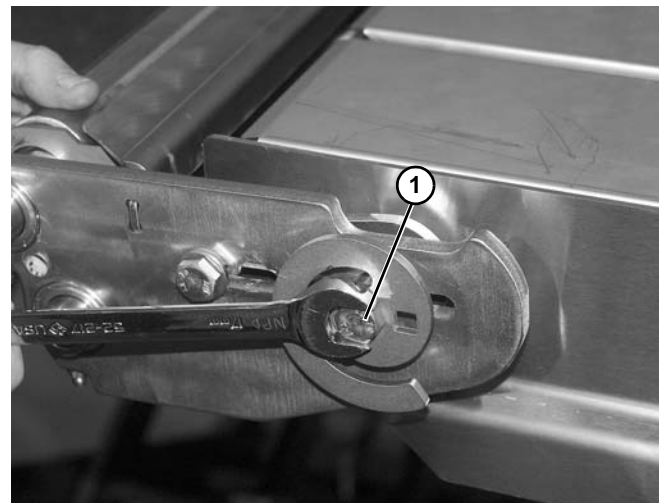

Figure 161
6. Remove headplate adjusting screw (**Figure 161, item 1**) on each side.